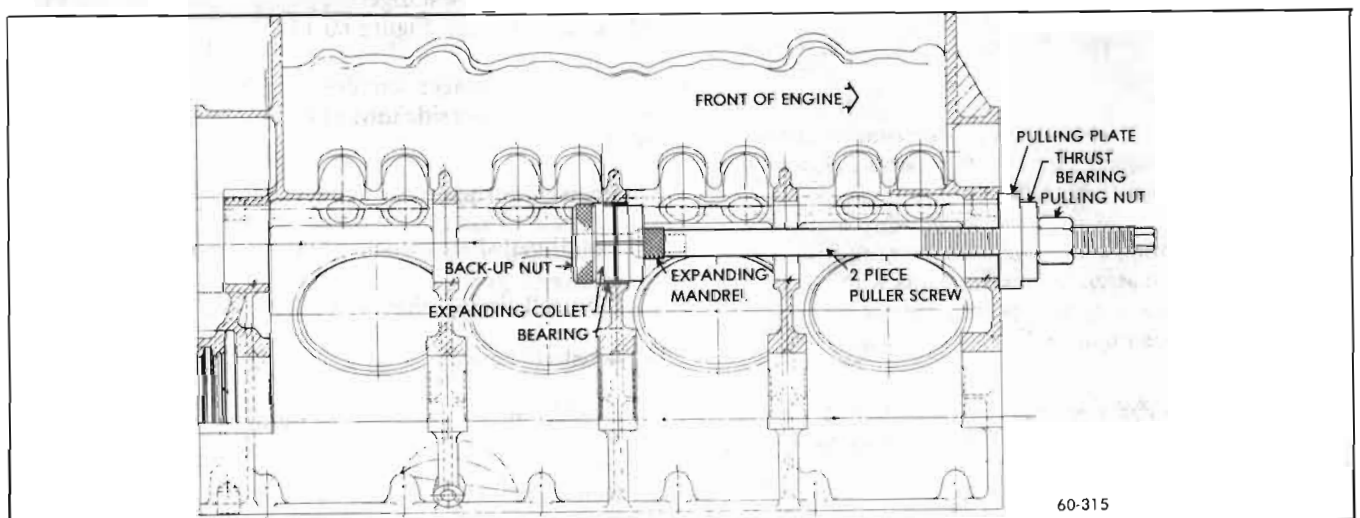

Figure 60-115 - Removing and Installing Camshaft Bearings
8. Bearing can then be removed by turning pulling nut. See Figure 60-115.